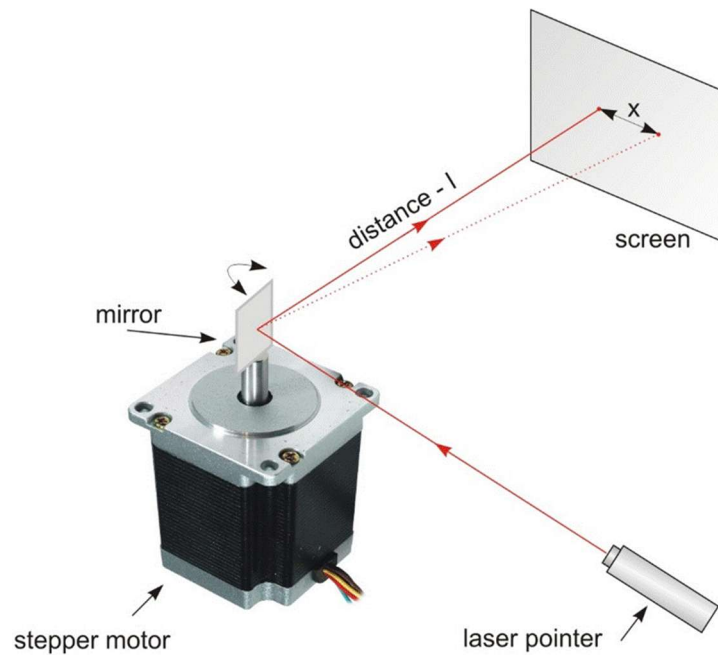

Figure 4. Measurement setup for stepper motor resolution determination (alternatively the laser pointer can be fixed on motor shaft).
4. Using above setup in Figure 4 determine maximum motor speed for different operation modes; perform a few steps forward and reverse with small speed and observe if the laser spot return to its start position; increase speed (*decrease the delay between steps*) and determine the speed when final laser spot position change (motor steps will be lost); Repeat this for two maximum winding currents amplitudes (change the voltage supply – the nominal and $\frac{3}{4}$ of nominal) – Tab.1